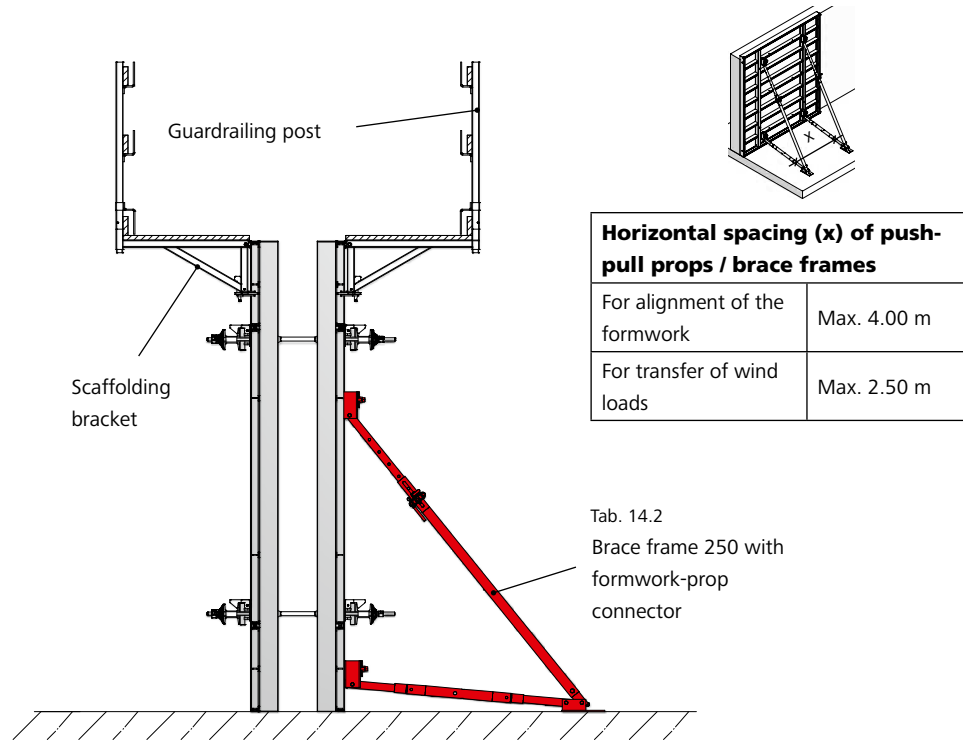

Fig. 14.1
Wall braces are attached to the DW thread nuts of the panels with formwork-prop connectors and flange screws 18 (Fig. 14.1).
- ■ Formwork height and length of braces should be identical. The angle between slab and brace should not exceed 60° (Fig. 14.1 and Tab. 14.3).